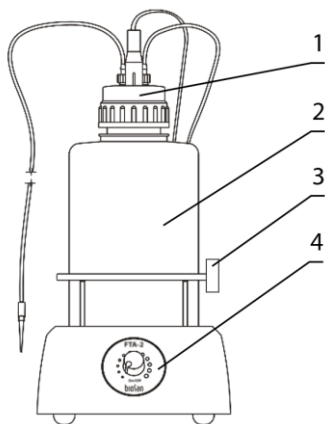
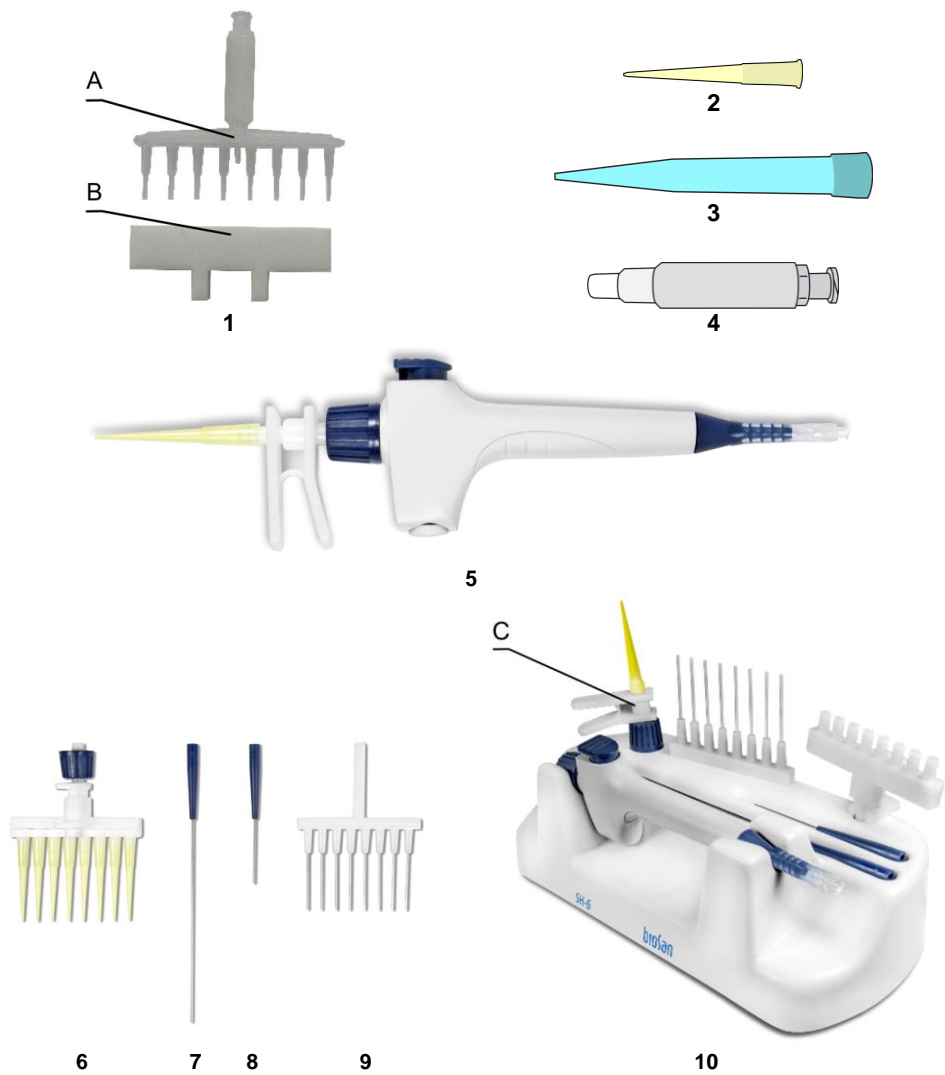

Figure 3. FTA-2i front view
Figure 8. Optional accessories and replacement parts
- Install the trapping flask (fig. 3/2) on the unit.
- Screw on the lid with the sensor needles and valves for tubing (fig. 3/1) to trapping flask.
- Place the microtubes for aspiration tip into the holder (fig. 3/3).
4.4.1 **Optional MA-8 aspiration tip installation.** Remove microtubes and aspiration tip from the holder (fig. 3/3). Remove the aspiration tip (fig. 5/1) from the **MA-U** adapter and connect the **MA-8** aspiration tip (fig. 8/1A).
4.4.2 **Optional HAS-1 hand operator installation.** Unscrew the **MA-U** adapter from the aspiration tube (fig. 5/3) and connect the **HAS-1** hand operator (fig. 8/5) by screwing it to the fitting.
- 5.3 (For model **FTA-2i**) Regulate the aspiration intensity with the regulator knob on the front panel of the unit (fig. 3/4). Clockwise turning direction increases power, counter clockwise – decreases. Current intensity is indicated by a light ring around the regulator knob.
MA-8 , 8-channel aspiration tip (fig. 8/1A) with holder (fig. 8/1B)	BS-040108-BK
HAS-1 , hand operator set (only for FTA-2i). Set includes: Handheld vacuum controller with adapter (fig. 8/5), 8-channel adapter (with ejector) for 200 µL tips (fig. 8/6), 1-channel adapter with 125 mm stainless steel pin (fig. 8/7), 1-channel adapter with 40 mm stainless steel pin (fig. 8/8), 8-channel adapter with 35 mm stainless steel pin (fig. 8/9), 1-channel adapter (with ejector) for 200 µL tips (fig. 8/10C), Stand SH-6 for hand operator parts (fig. 8/10)	BS-040118-PK
Aspiration tip, 200 µL, 1000 pcs. (fig. 8/2)	BS-000001-S04
Aspiration tip, 8 channels, for MA-8 (fig. 8/1A)	BS-040108-S24
MA-U , universal adapter for 200/1000 µL single use tips (fig. 8/4)	BS-040118-AK
Aspiration tip, 1000 µL, 1000 pcs. (fig. 8/3)	BS-000001-S05